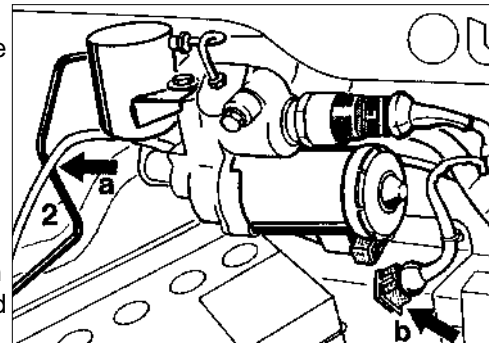

Figure 6
- Install the new hydraulic line into the body wall clips. If necessary, bend the line carefully to fit the clips. The new hydraulic line (2 in Figure 6) is now routed behind the plastic supply line (Arrow a in Figure 6). In the previous version, the old hydraulic line was routed in front of the plastic supply line.